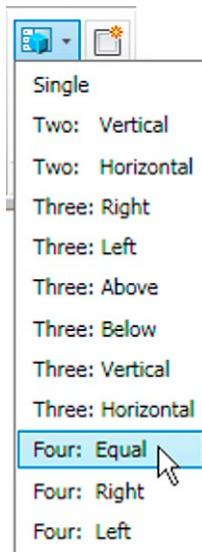
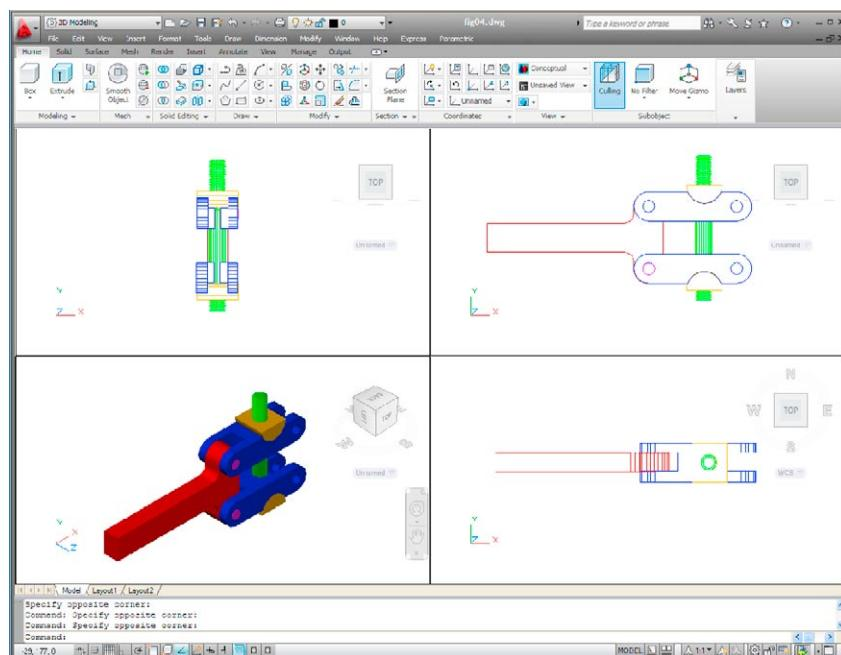

Fig. 13.3 Selecting **Four: Equal** from the **View/Viewports** popup list
Fig. 13.4 The **Four: Equal** viewports layout
In the **3D Modeling** workspace *click New* in the **View/Viewports** panel. From the popup list which appears (Fig. 13.3) select **Four: Equal**. The **Four: Equal** viewports layout appears (Fig. 13.4).
In Fig. 13.4 a simple 3D model has been constructed in the **Four: Equal** viewport layout. It will be seen that each viewport has a different view of the 3D model. Top right is an **isometric** view. Bottom right is a view from the **right** of the model. Bottom left is a view from the **left** of the model.
1. Open a **Four Equal** viewport setting from the **New** popup list in the **View/Viewports** panel (Fig. 13.3).
1. Open a **Four: Left** viewport layout from the **Views/Viewports** popup list (Fig. 13.3).
1. Open the **Three: Right** viewport layout from the **View/Viewports** popup list (Fig. 13.3).